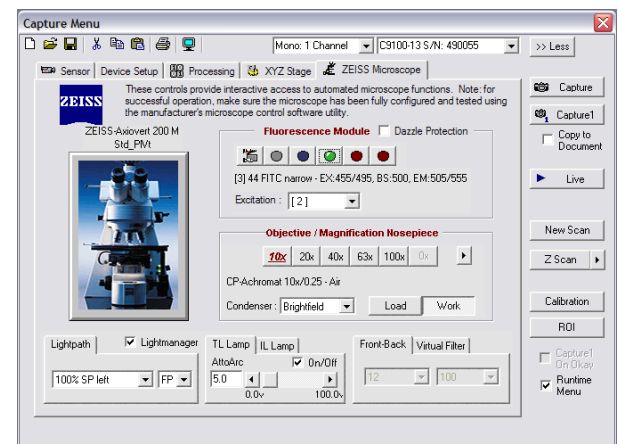

fig.5
11. Click on the relevant **Microscope** Tab in the Capture Window to show the components and functionality of the microscope (fig.5).
12. The microscope is controllable from the dialogue in the window (fig.5).